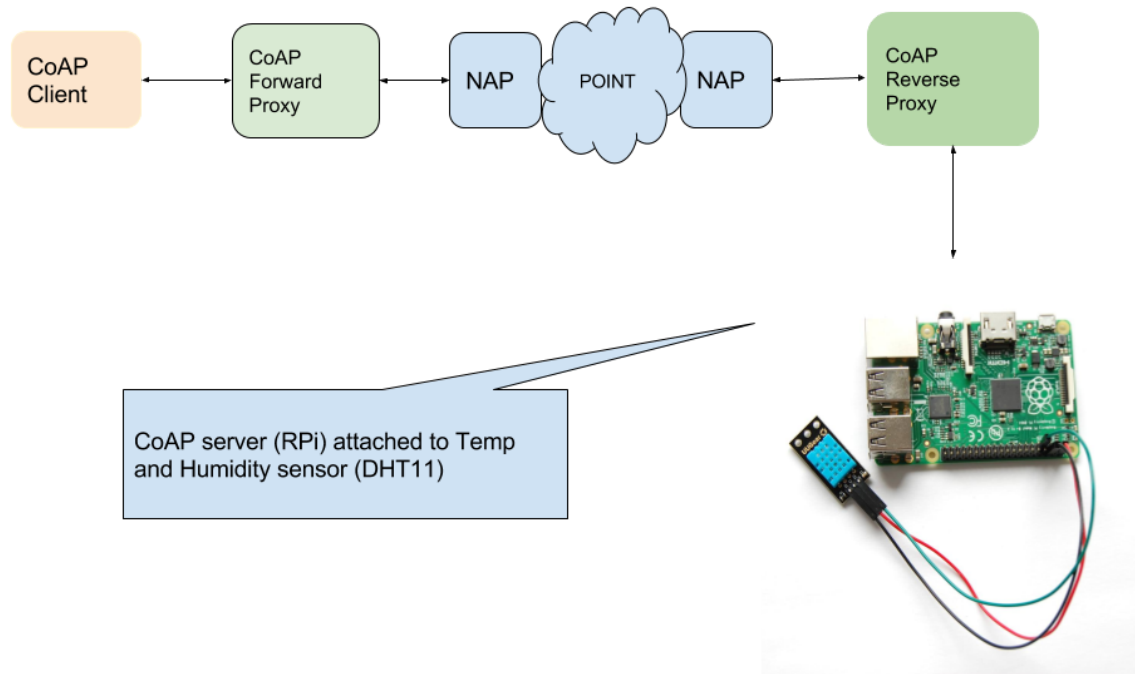

Figure 1: An example CoAP proxy setup.
N.B. The NAPs (shown in the middle of Figure 1) should be configured correctly in order to provide *IP-over-ICN* functionality.
2. Install CoAP proxy in computers acting as a forward and reverse proxy (see Figure 1).
We assume that the NAP has been installed correctly and is running. Each box in Figure 1 is a separate machine (or a VM). We assume that the hostnames of CoAP Reverse Proxy and Raspberry Pi are aalto.coap.point and rpi.coap.aalto. Run following commands in order to read sensor values from the CoAP client.